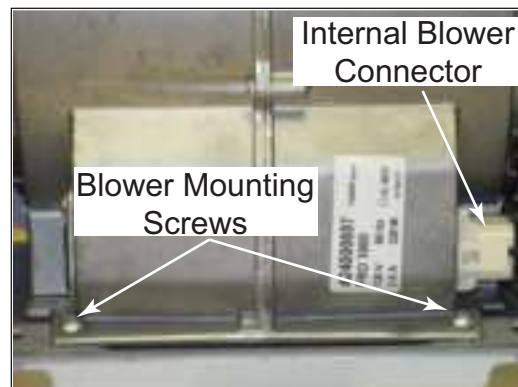

Figure 3-5. Internal Blower in Easy Cube
1. Support Internal Blower and extract two screws at bottom of mounting plate. (See Figure 3-5)